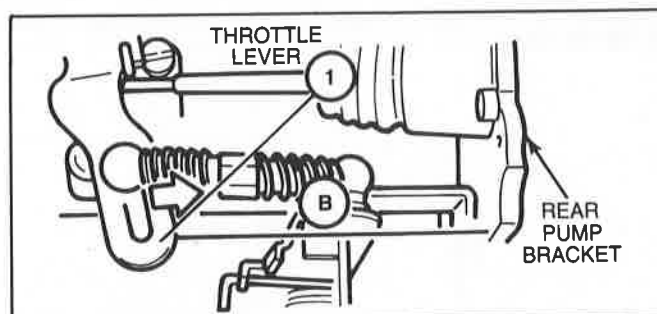

Figure 17 Dimension B
3. Move lever against high speed stop screw. Measure and record distance between pump lever and pump rear bracket (Fig. 17, Dimension B).